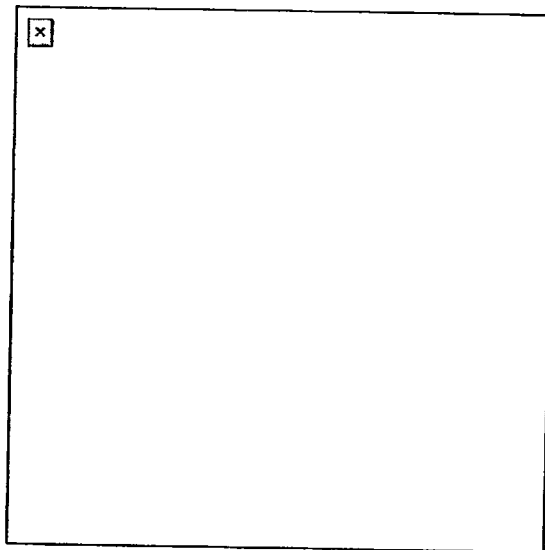

Figure 1. Installation of pintle adapter on HMMWV armament carrier ring.
- a. HMMWV armament carrier ring pedestal (Figure 1).